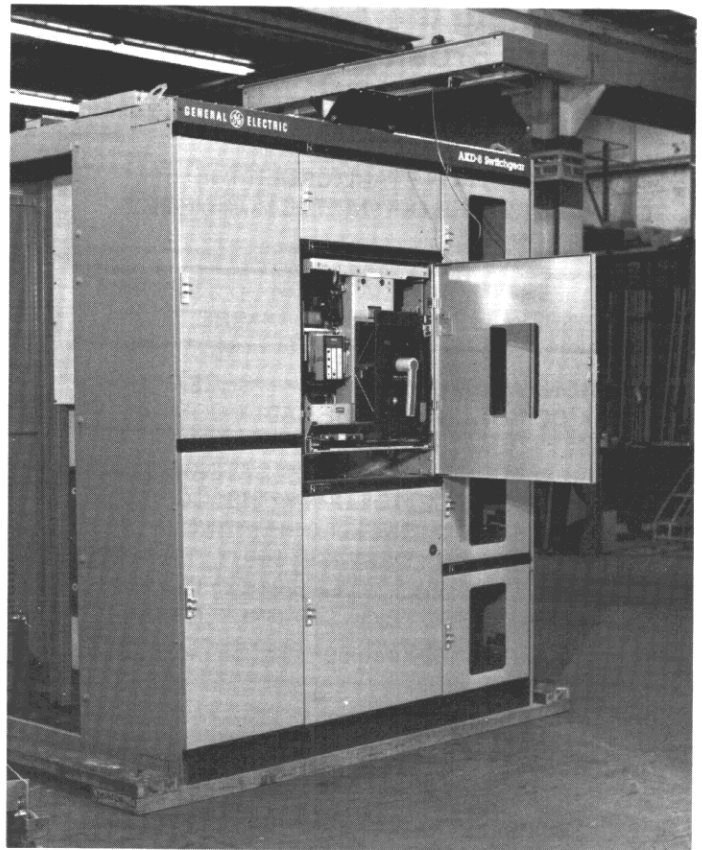

Fig. 5-9. Push the breaker in completely. Close the door.
6. Push the breaker into the compartment until it reaches the rail stops. See Fig. 5-9. This is the DISCONNECT position. At this point, the racking arms must be positioned to engage the fixed racking pins in the compartment.